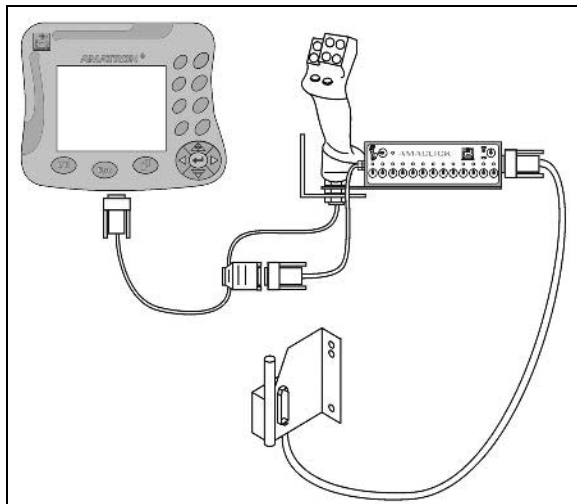

Fig. 94
- with joystick according to Fig. 94.